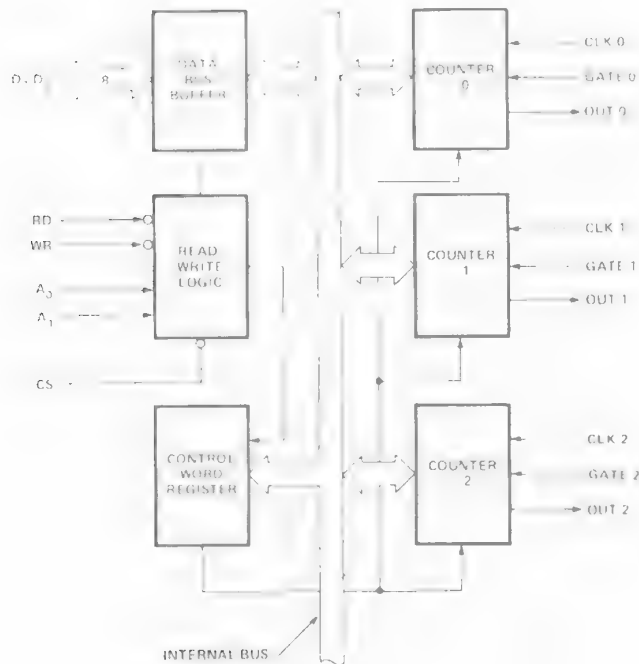

Figure 1. Block Diagram
1. AC timings measured $V_{OH} = 2.0$, $V_{OL} = 2.0$, $V_{OL} = 0.8$, and with load circuit of Figure 1.
2. Chip Select (CS) and Command/Data (C/D) are considered as Addresses.